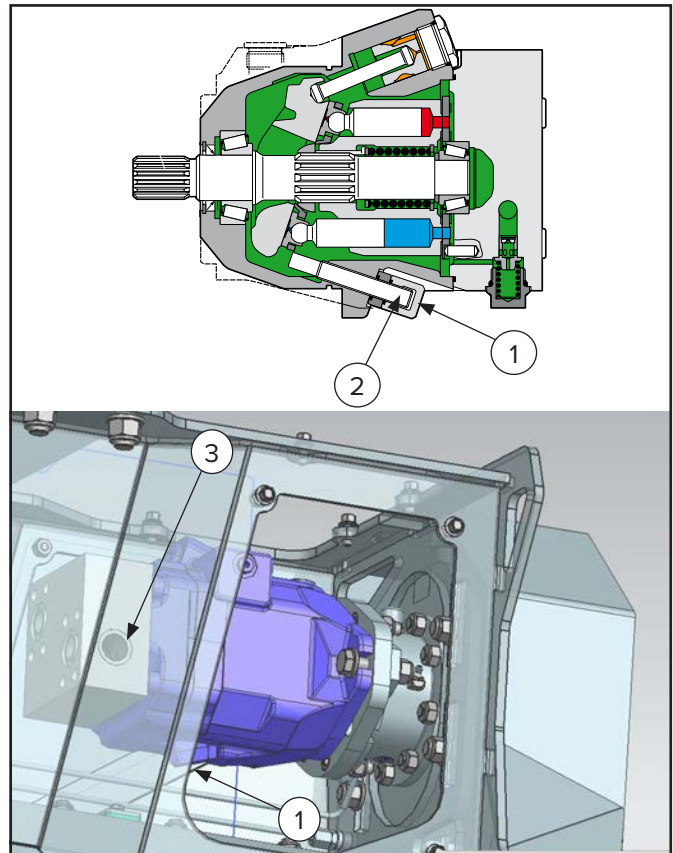

Figure 14
- Remove the hex cap [Figure 14, Item 1] on the bottom of the motor to access the adjustment screw [Figure 14, Item 2].
The relief valve [Figure 14, Item 3] pressure is preset at 4,050 psi (280 bar).